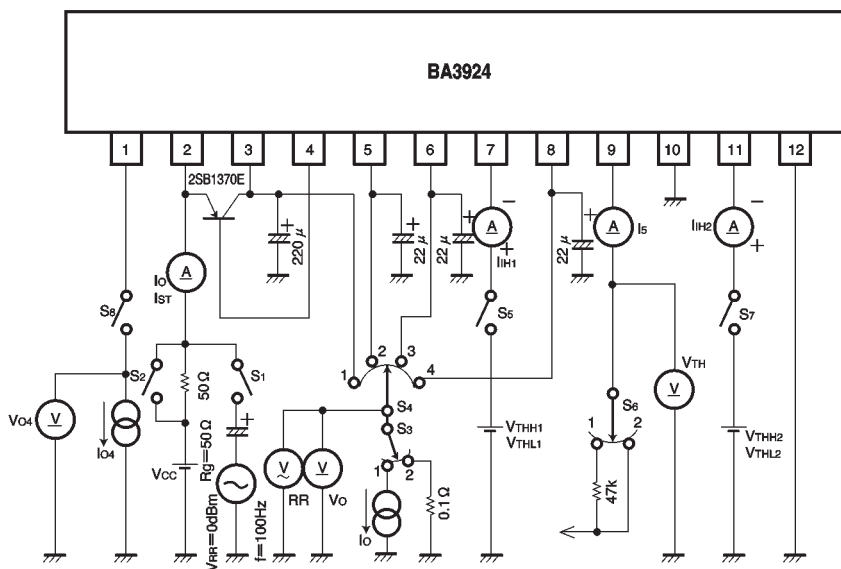

Fig.1
Except under transitional conditions, the power dissipation of this IC is 3W per unit at 25°C. Use the following equations and Fig. 1 to roughly calculate the allowable power dissipation and decide if a heat sink is needed or what kind of a heat sink is needed.
Figure 1 is a line graph showing Power Dissipation (P_d) in Watts (W) on the Y-axis versus Ambient Temperature (T_a) in degrees Celsius ($^{\circ}\text{C}$) on the X-axis. The X-axis ranges from 25 to 150 $^{\circ}\text{C}$ in increments of 25. The Y-axis ranges from 0 to 14 W in increments of 2. There are five curves representing different cooling conditions: